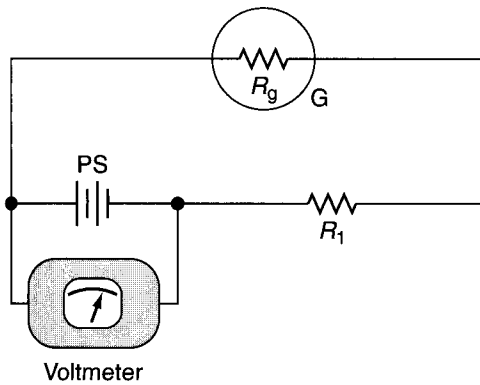
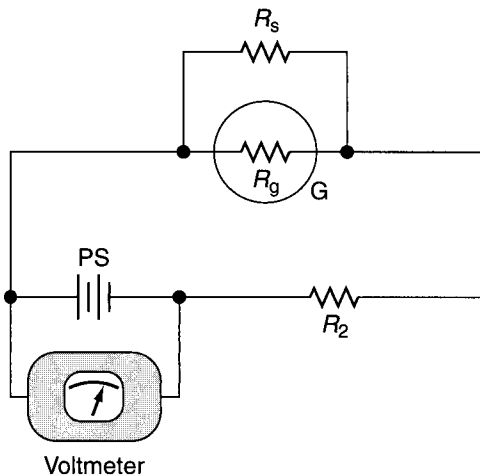

Figure 31-3 Original circuit.
Figure 31-4 Original circuit plus shunt.
1. Connect the galvanometer, power supply, and decade resistance box in series, and then connect the voltmeter in parallel with the power supply as shown in Figure 31-3. Set the resistance box R_1 to a value of $2500\ \Omega$ and adjust the power supply voltage carefully until the galvanometer deflects full scale. Record the voltmeter reading as V and the number of large divisions into which the scale is divided as N in Data and Calculations Table 1.
2. A resistor in parallel with a device is called a shunt resistor because it diverts part of the current that was originally going through the device. Use a composition resistor with a value of approximately $330\ \Omega$ as a shunt resistor. Use the ohmmeter to measure an accurate value for the shunt resistor R_s and record it in Data and Calculations Table 1. With the power supply voltage set exactly as above, connect R_s in parallel with the galvanometer (Figure 31-4). The deflection of the galvanometer will now be less than full scale.
- Turn the power supply to zero and remove the shunt resistor. The circuit is again like Figure 31-3; but now select a value of $3000\ \Omega$ for R_1 , the resistance box, and repeat the procedure described in Step 1. Record the value of V needed to produce a full-scale deflection for this resistance in Data and Calculations Table 1.
1. By applying Ohm's Law to the circuits in Figure 31-3 and Figure 31-4 when the applied voltage V is the same and the galvanometer is at full-scale deflection in both cases, it can be shown that the resistance of the galvanometer R_g is given by
2. The constant K is defined as the current needed to produce a deflection of one scale division, and the deflection in the above procedure was N scale divisions. Ohm's Law applied to the circuit of Figure 31-3 leads to the following:
EXTRA CREDIT QUESTION. It is stated in the laboratory instructions that the same voltage V is applied to both circuits in Figure 31-3 and Figure 31-4, and that the galvanometer deflects full scale in both cases. Thus the galvanometer current is $I_g = KN$ for both circuits. In Figure 31-4 let the current in R_s be called I_s . From the application of Ohm's Law to these circuits, derive the expression given as Equation 1 for R_g .